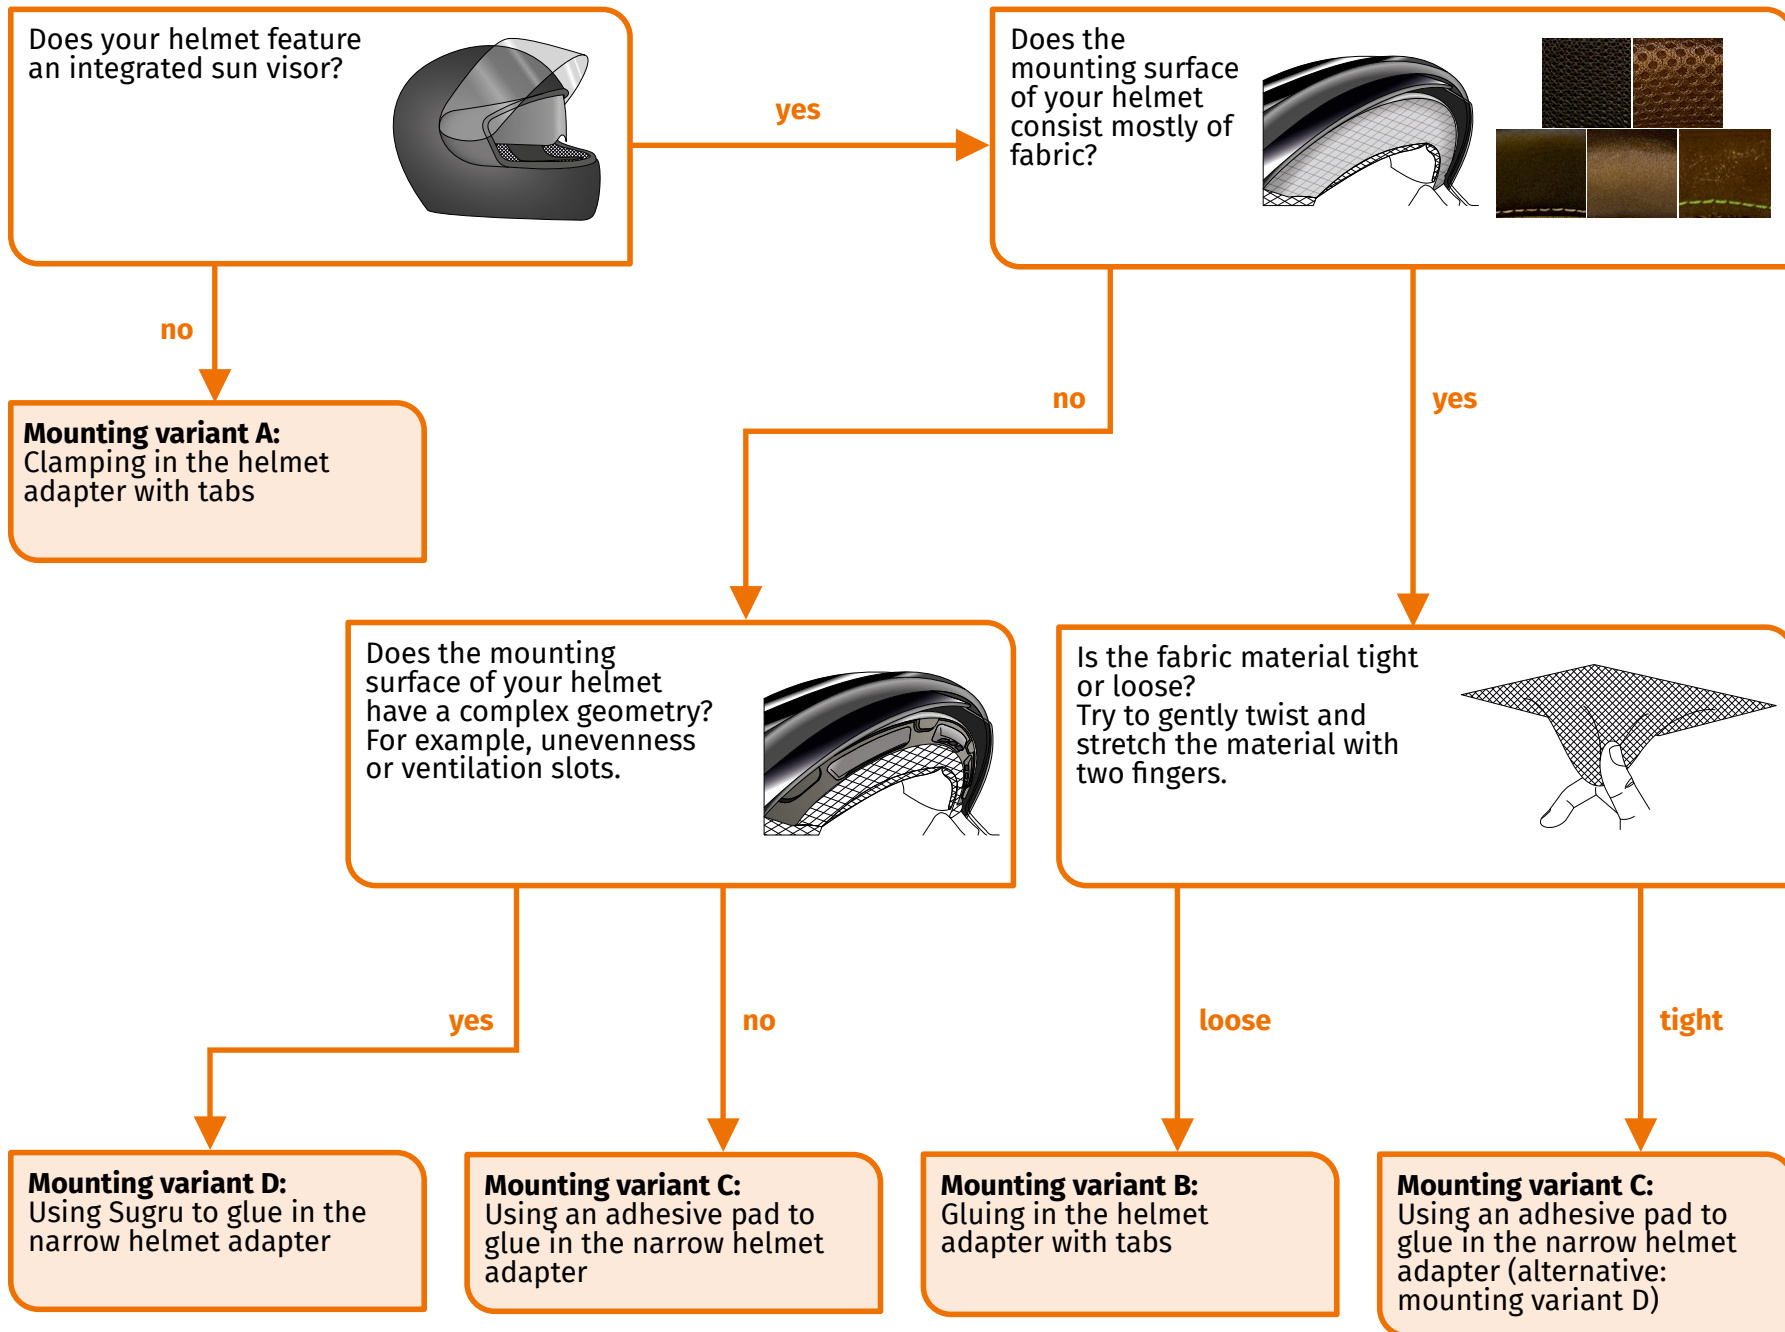

FIGURE 4: Decision guide: Selecting the helmet adapter
1. Determine your helmet type and the appropriate mounting variant using the following decision guide (FIGURE 4).